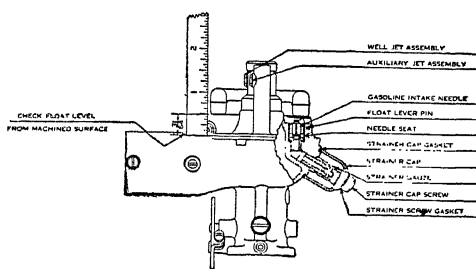

Fig. 140. Checking Float Level
*Operation of Float.* Gasoline, after passing through the needle seat, is admitted to the carburetor bowl by the gasoline intake needle and float. This mechanism maintains the correct level of fuel in the bowl. The float is properly set at the factory and should not be changed. The correct level is three-quarters inch from the top of the float to the machined surface of casting when the needle is closed, Fig. 140. This measurement should be taken on the side of the float opposite the gasoline intake needle. If, for any reason, the float lever must be reset, it may be done by bending the float-lever lip that comes in contact with the gasoline intake needle. Bending the lip up will lower the float level and bending it down will raise it. Only a slight bend is necessary to change the level.